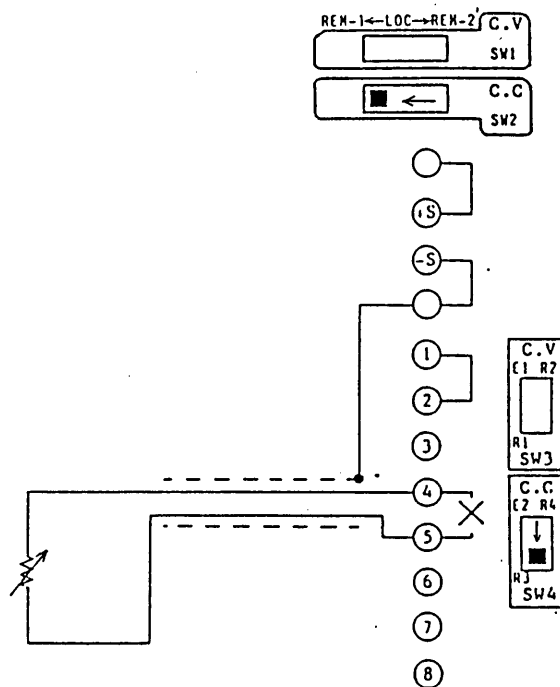

Figure 4-9
- (1) Turn off the POWER switch.
- (2) Throw the SW2 switch of the rear panel to REM-1.
- (3) Throw the SW4 switch of the rear panel to R3.
- (4) Disconnect the jumper from between terminals ④ and ⑤ of the rear terminal block.
- (5) Connect a control resistor (R3) to between terminals ④ and ⑤.
- (6) Connect an ammeter (a shunt resistor) between the OUTPUT terminals.
- (7) Turn on the POWER switch. (Turn on the OUTPUT switch.)
- (8) Adjust offset (at zero amperes) with the I.os control of the service panel. $R3 = 0 (\Omega)$ (See Section 4.8.1, Note 5.)
- (9) Regarding the switches for which no settings are specified in Figure 4-9, set them to the standard states as shown in Figure 2-23 (See Section 2.4.) or to appropriate states for respective modes (See Sections 4.1 through 4.11.).